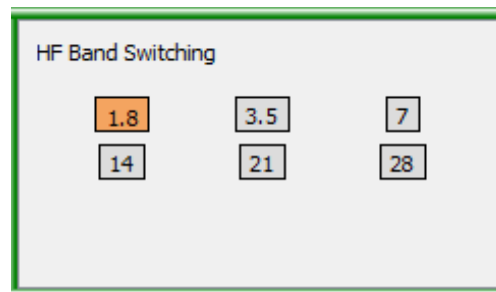

Figure 45 – HF Band Switching
For multi-band (HF) contests the screen layout will have to be modified (see Section 3.5) to display the ‘**HF Band Switching**’ panel (Figure 45). The orange button shows the currently active band.